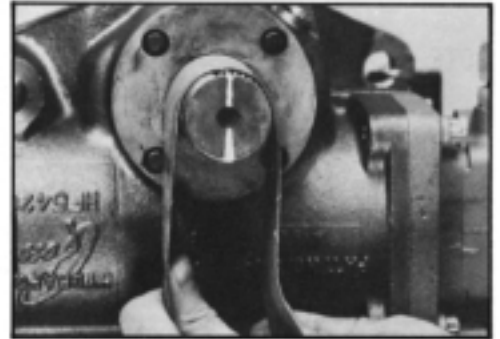

Figure 46
4. Remove any paint or corrosion from the exposed area of sector shaft (51) with emery cloth. SEE FIGURE 46.